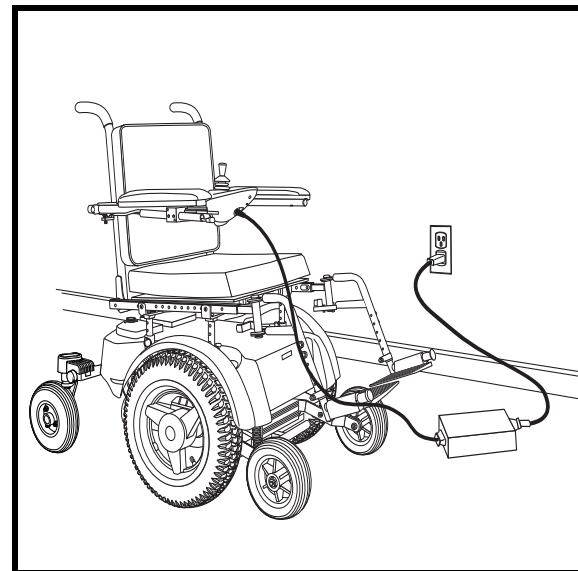

Figure 24. Battery Charging
3. Plug the off-board charger into the off-board charger/programming socket on the controller. **See figure 24.**